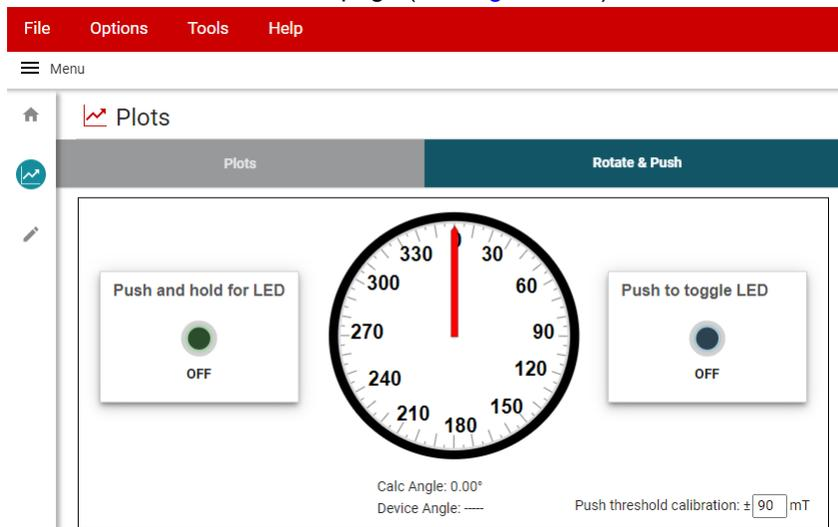

Figure 3-11. Rotate & Push GUI Page
3. Go to the *Rotate & Push* tab inside the Plots page (see Figure 3-11).